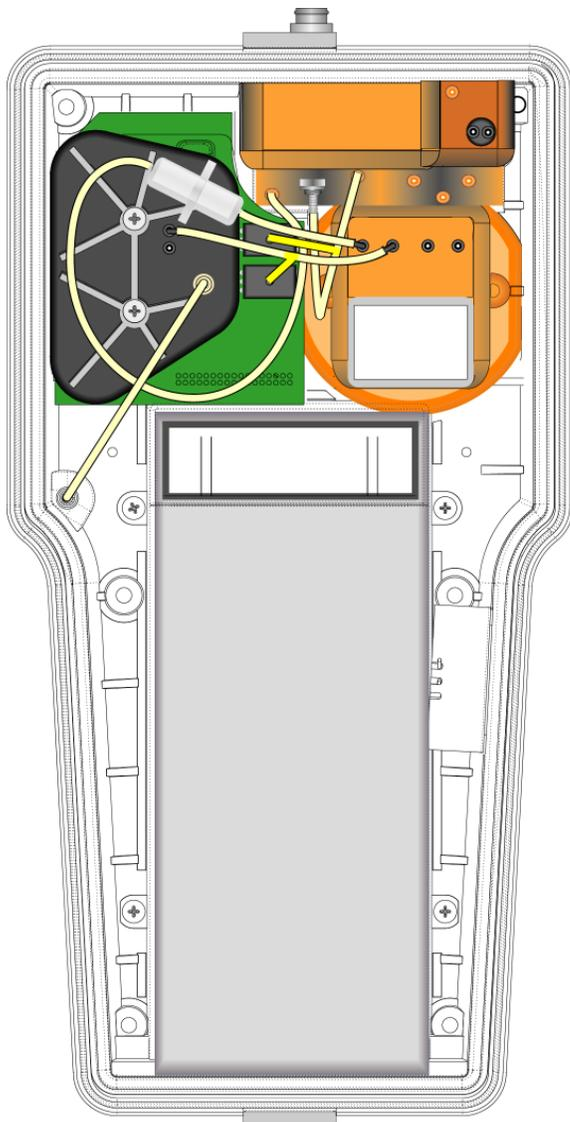

Figure 6.2.3 Pump/tubing assembly diagram
3. Remove the six Philip’s head screws from the bottom of the instrument and separate the upper and lower case assemblies. Take special care not to disconnect any of the hoses connecting the sensor compartment, pump and inlet fittings. In the event of a hose disconnection, see figure 6.2.3 below.